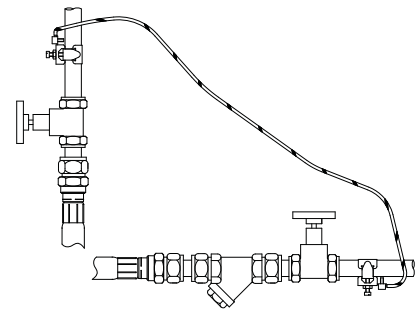

Fig. 9
- 4.15 **Adjacent pipes:** Adjacent suction and delivery pipes should be fitted with earthing clamps in accordance with current regulations (Fig. 9).